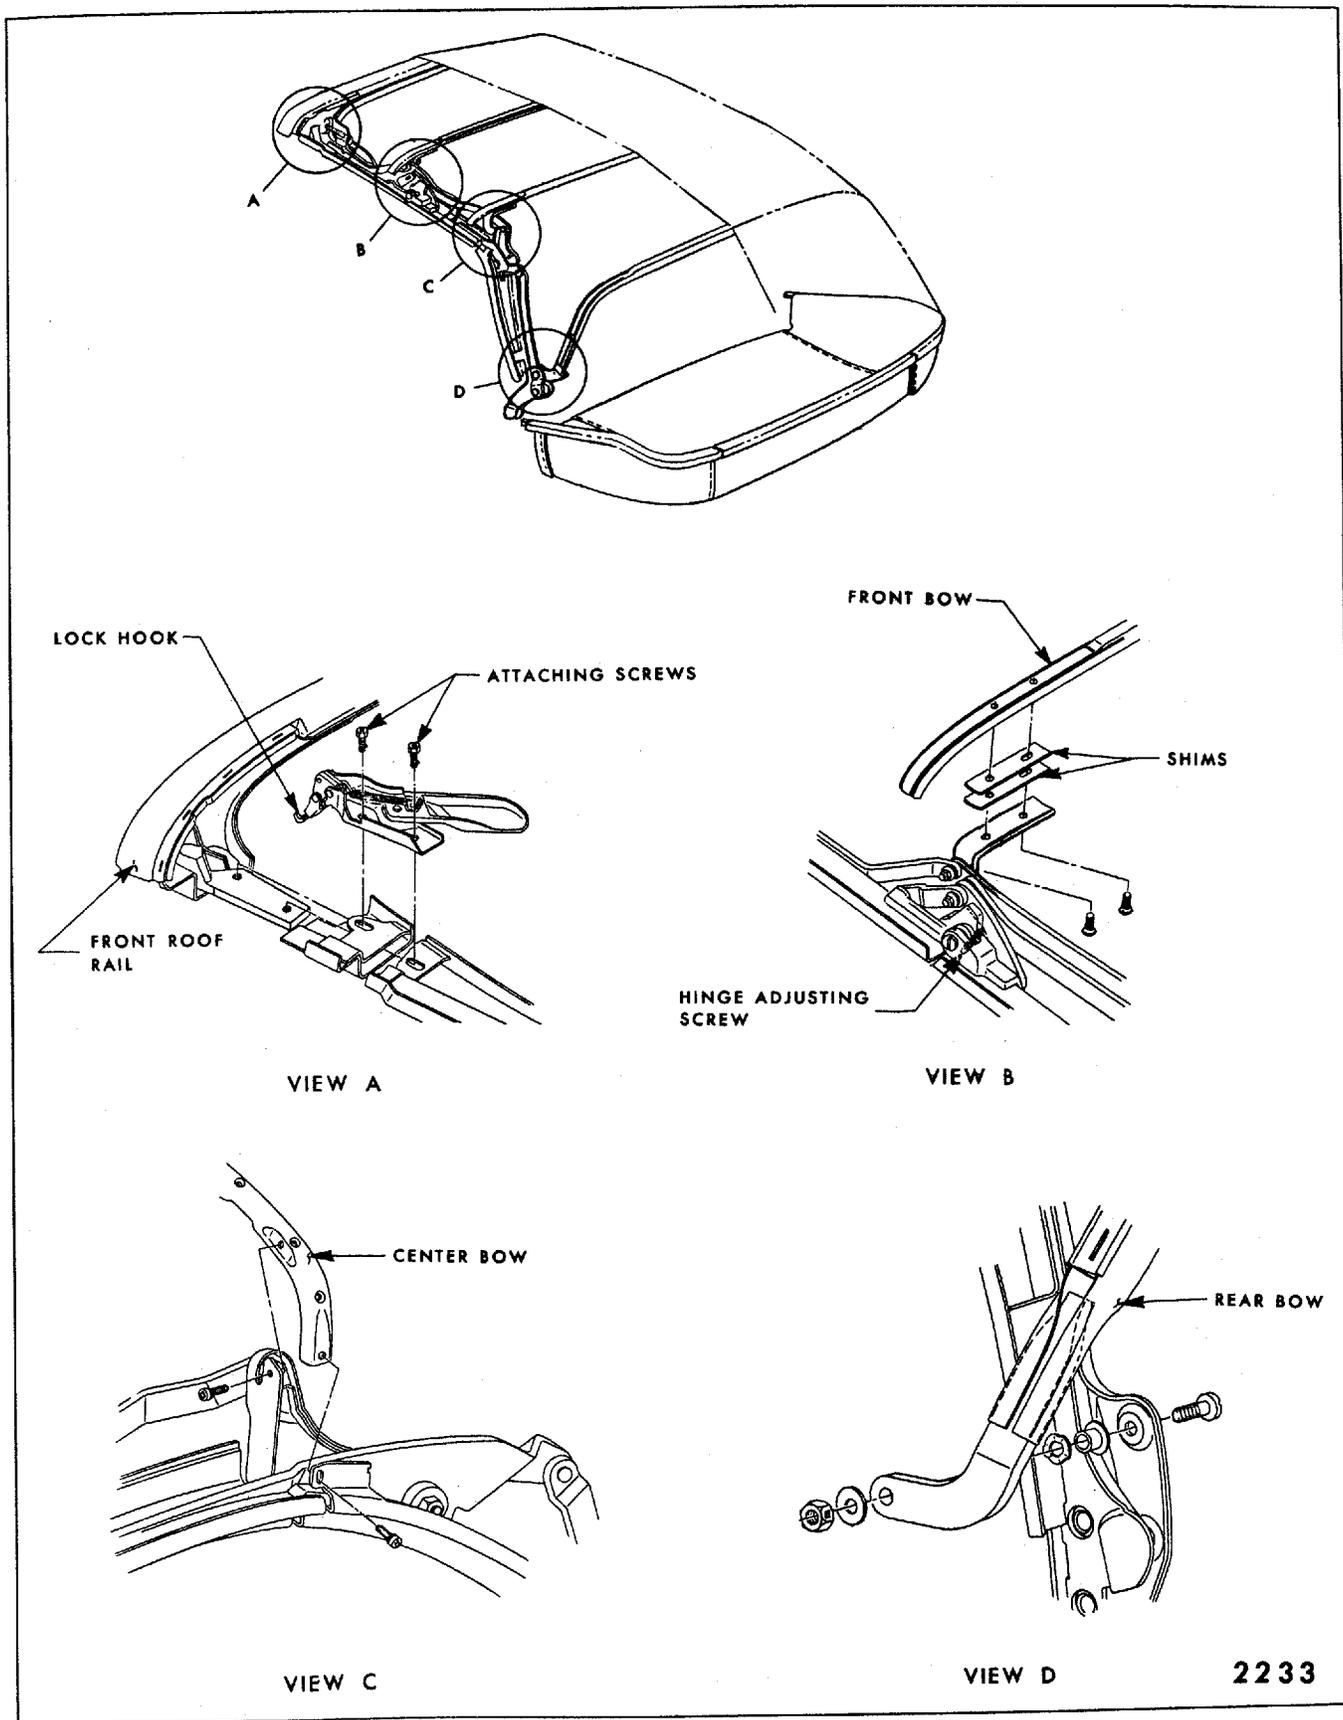

Fig. 6-90--"Z" Body Folding Top Adjustments
3. Front roof rail misaligned.	Adjust front roof rail. (View "A" in Fig. 6-90.)
2. Center side roof rail hinge adjusting screw improperly adjusted.	Adjust screw clockwise. (View "B" in Fig. 6-90.)